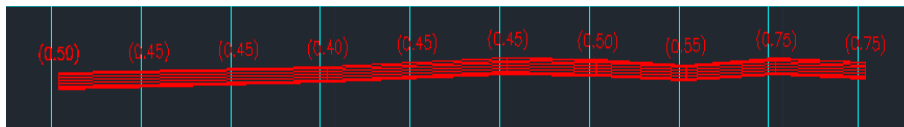

Fig. 129 - Dress Pipe
9. The **Dress Pipe** command () allows to “dress” the pipes, creating around the pipe axis the vectors of a cylinder. This type of viewing gives the pipe a so-called “iron view” look (Fig. 129). After activating the *Dress pipe*, the cursor becomes a small square allowing to select the pipes to “dress”.